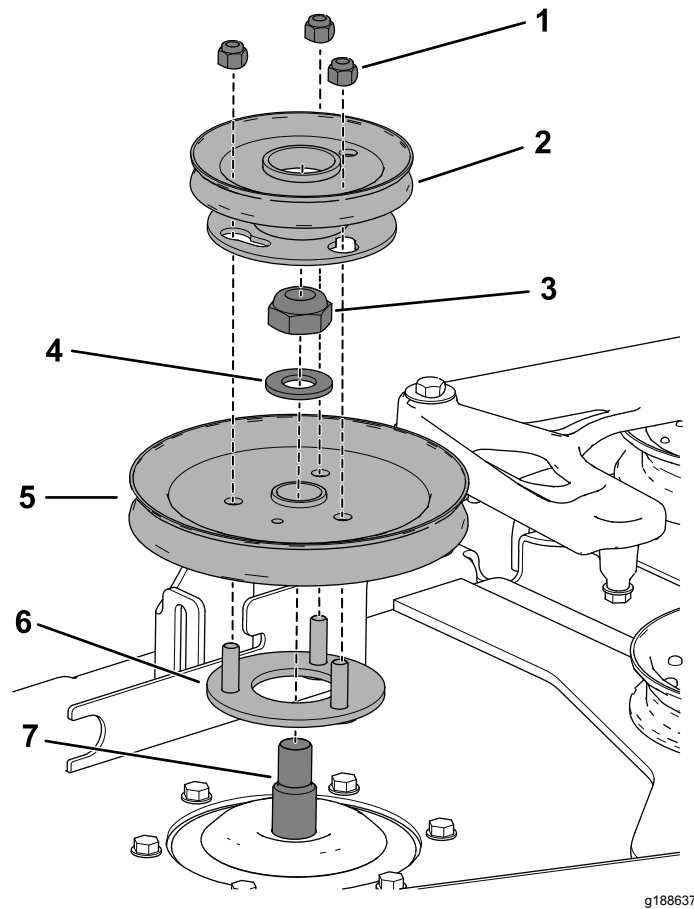

Figure 31
- Insert the threaded studs on pulley mount through the holes in the deck pulley (Figure 31).
- Use the locknut (3/4 inch) and washer that you set aside earlier to secure the deck pulley to the spindle shaft (Figure 31).
- Arrange the blower pulley onto the threaded studs and loosely install the locknut (Figure 31).